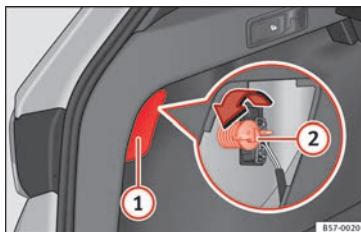

Fig. 111 Luggage compartment: access to the bolt securing the tail light unit.
3. Remove the lid, levering it with the flat side of a screwdriver into the recess » **Fig. 111 ①**.
5. Unscrew the light securing bolt by hand or using a screwdriver » **Fig. 111 ②**.